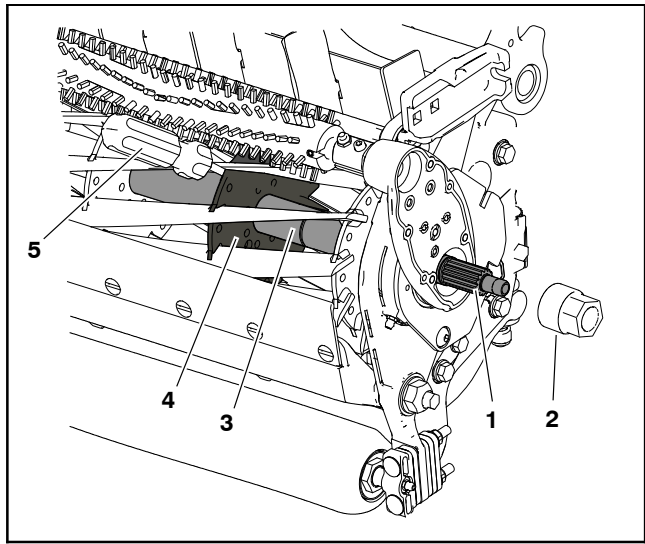

Figure 5
J. Use the drive shaft removal tool (Toro p/n 137-0920) on the large flats of the drive shaft assembly; refer to **Fig. 5**.